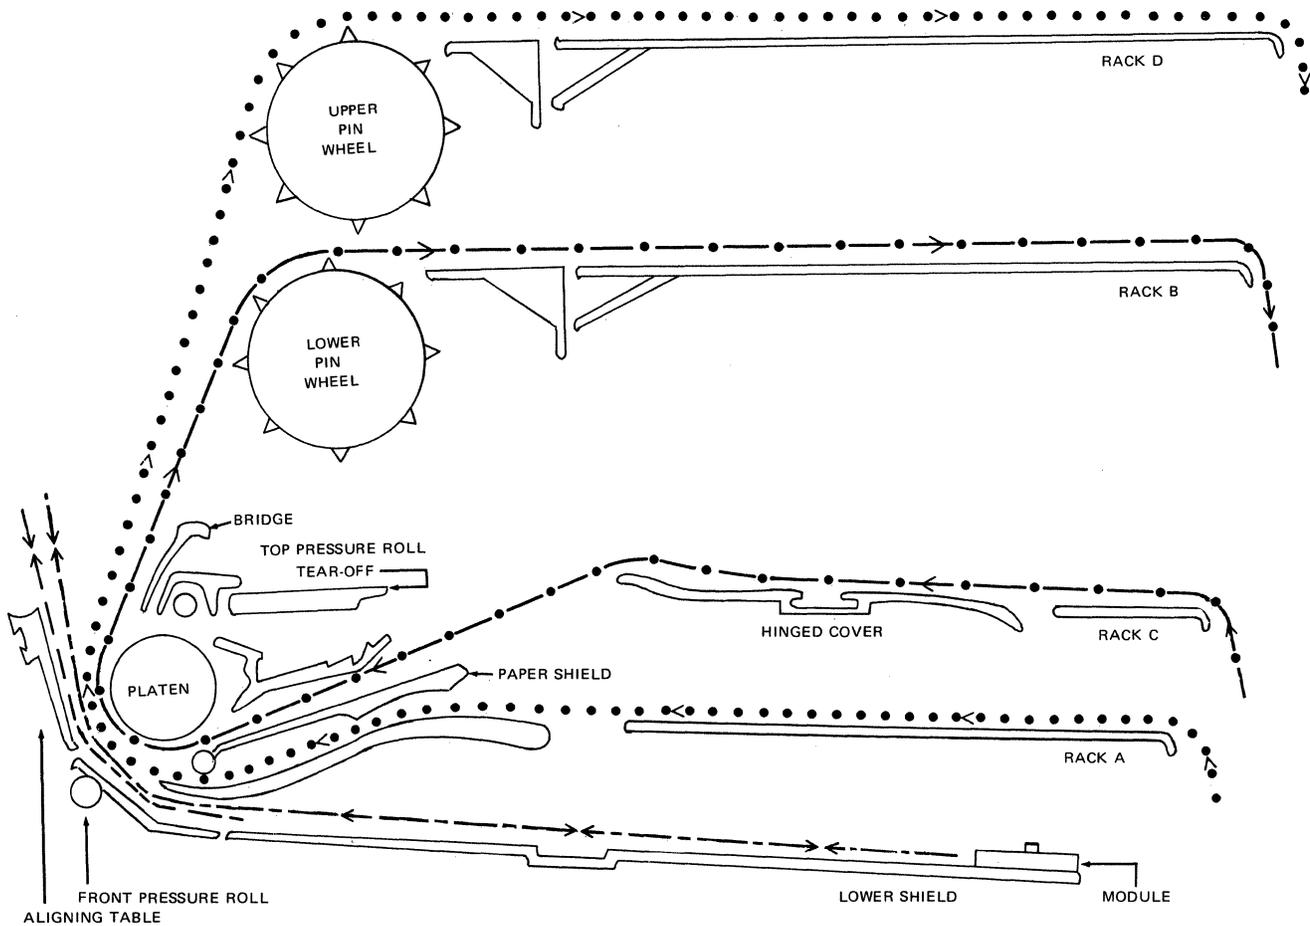

Figure 6.14.11-2 Paths for Front Feed Forms, Magnetic Unit Record, and Overlapping Pin Feed Forms, Style 1 Intake and Exit Racks, MUR Front Feed Forms Handler
**Explanation of Figure 6.14.11-1**
### Explanation of Figure 6.14.11-2